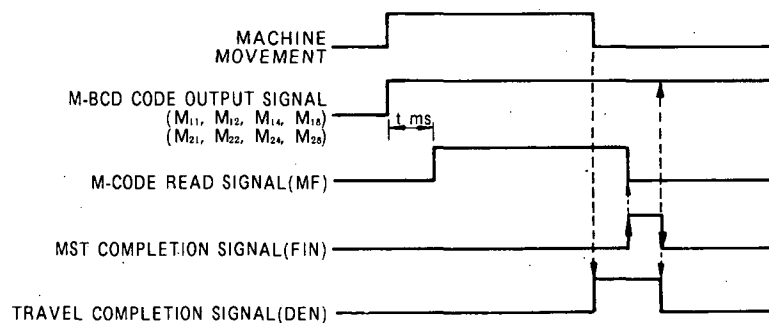

Fig. 4.33
- (5) Where several M codes are commanded in the same block, the final command among commanded M codes is effective. Fig. 4.33 shows the time chart covering the above time relationship.